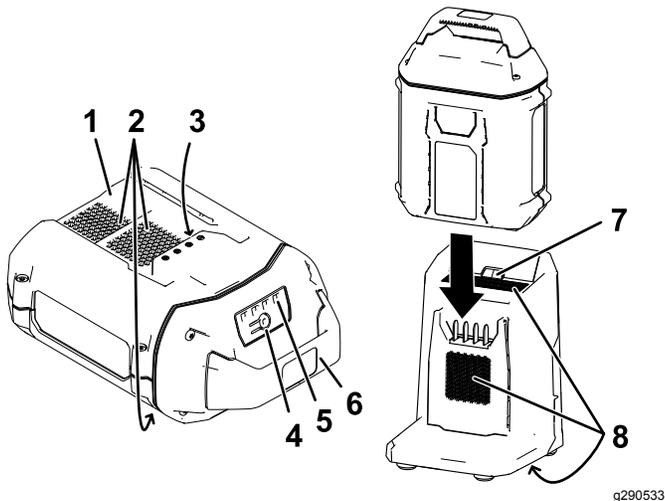

Figure 17
2. Line up the cavity in the battery pack (Figure 17) with the tongue on the charger.
4. Slide the battery pack into the charger until it is fully seated (Figure 17).